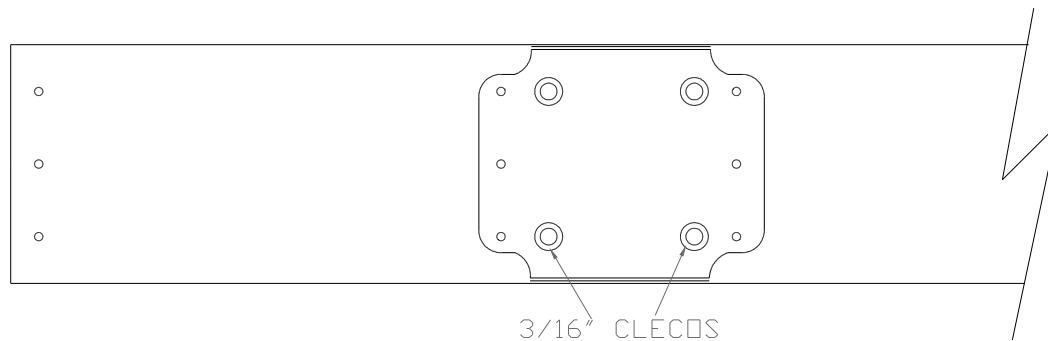

Figure 3.1.2
- 5) Cleco the four Elevator Hinge Doublers (EL0307) to the Elevator Spar (EL0309) using the four 3/16" holes that are in the Elevator Hinge Doublers. Figure 3.1.2.